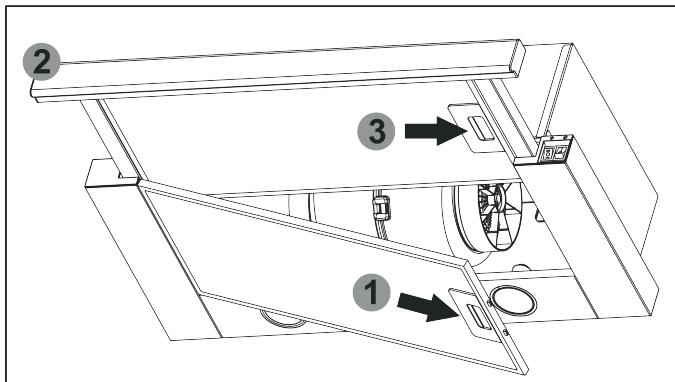

Fig.6
7.9 To remove an aluminium filter [Fig. 6], press on the spring sliding part 1. Remove the pull-out panel with filter 2 and remove the aluminum filter 3. Perform the procedure inversely to install a filter.